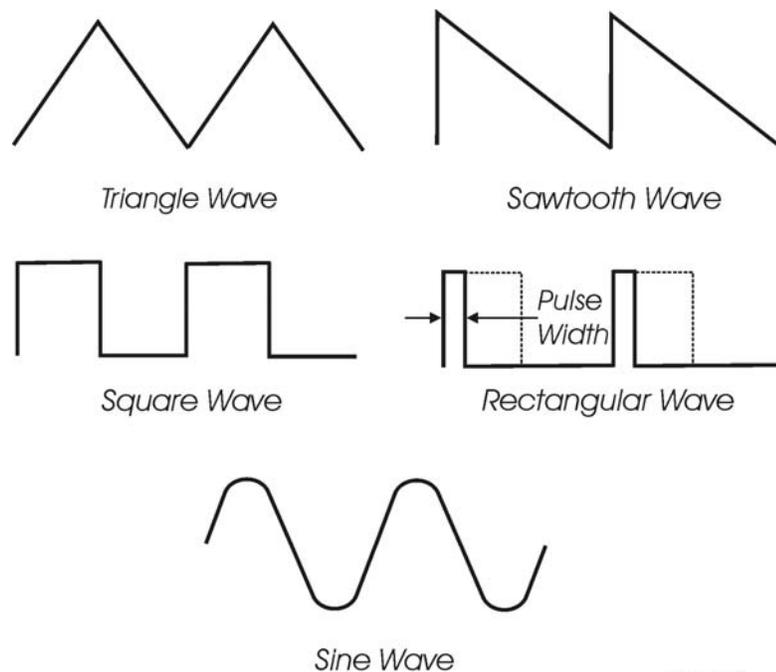

figure 6
**Waveform:** The shape of an oscillator's vibration. This determines its timbre. Commonly used waveforms in subtractive synthesis are sawtooth, triangle, square, or rectangular. Different waveforms have different timbres. A sawtooth has the greatest number of harmonics, and sounds bright and buzzy. A square wave has only odd harmonics, and sounds bright, but hollow, like a clarinet. A rectangular wave can vary in shape, but typically has a bright but thin sound, and a triangle wave's harmonics are so low in amplitude that it sounds muted and flutelike (figure 6).